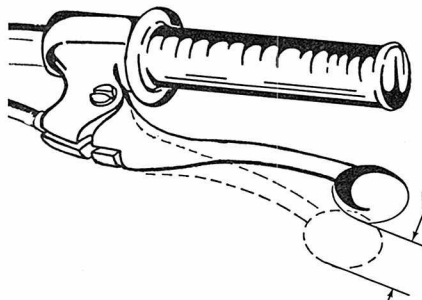

Fig. BS3-15—Clutch hand lever should have  $\frac{3}{8}$ – $\frac{5}{8}$  inch free play at B.
**CLUTCH CONTROLS.** The clutch is located on right end of transmission input shaft. Hand lever should have  $\frac{3}{8}$ – $\frac{5}{8}$  in. free play as shown at (B—Fig. BS3-15).